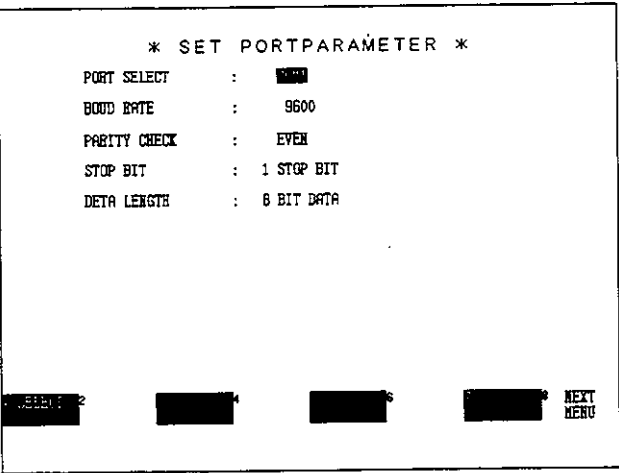
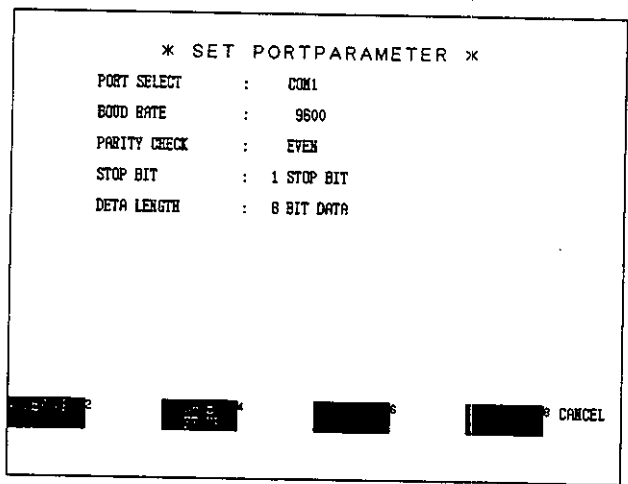

Figure 6.360
Figure 6.361
- (1) There is no need to perform this operation if the default GL60S, GL60H, or GL70H data transmission parameters are OK.
- (2) The P120 has a data transmission parameters file on the hard disk. The default (initial) values are shown in *Figure 6.360*. To change these default parameters, set them on the hard disk. If the default parameters on the hard disk are changed to the required one, then there will be no need to change them every time the P120 is started. To change the parameters on the hard disk, choose Save Setup instead of Select on the screen shown in *Figure 6.361*.